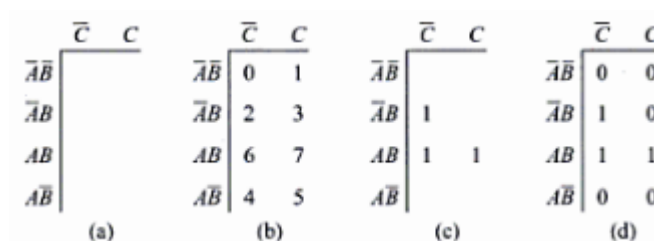

Figure 3.8: Three variable kmap
- Figure 3.8 shows three-variable kmap.